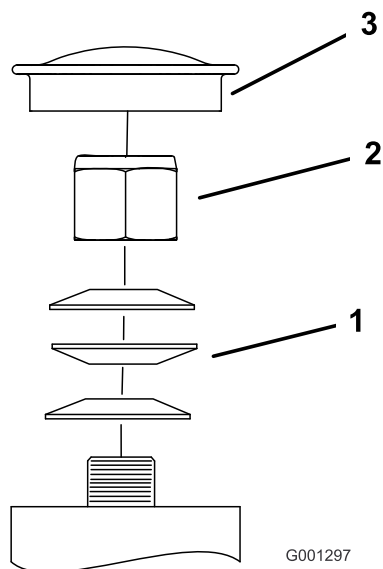
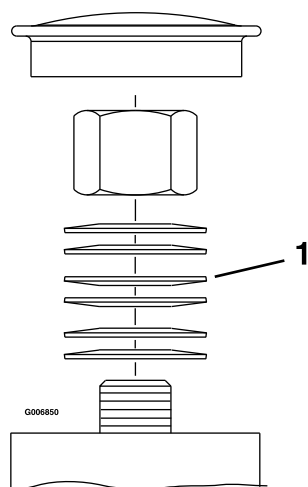

Figure 44
Figure 45
3. Remove the dust cap from the caster and tighten the locknut (Figure 44 and Figure 45).
4. Tighten the locknut until the spring washers are flat and then back off 1/4 turn to properly set the pre-load on the bearings (Figure 44 and Figure 45).
Important: Make sure that the spring washers are installed correctly as shown in Figure 44 and Figure 45.